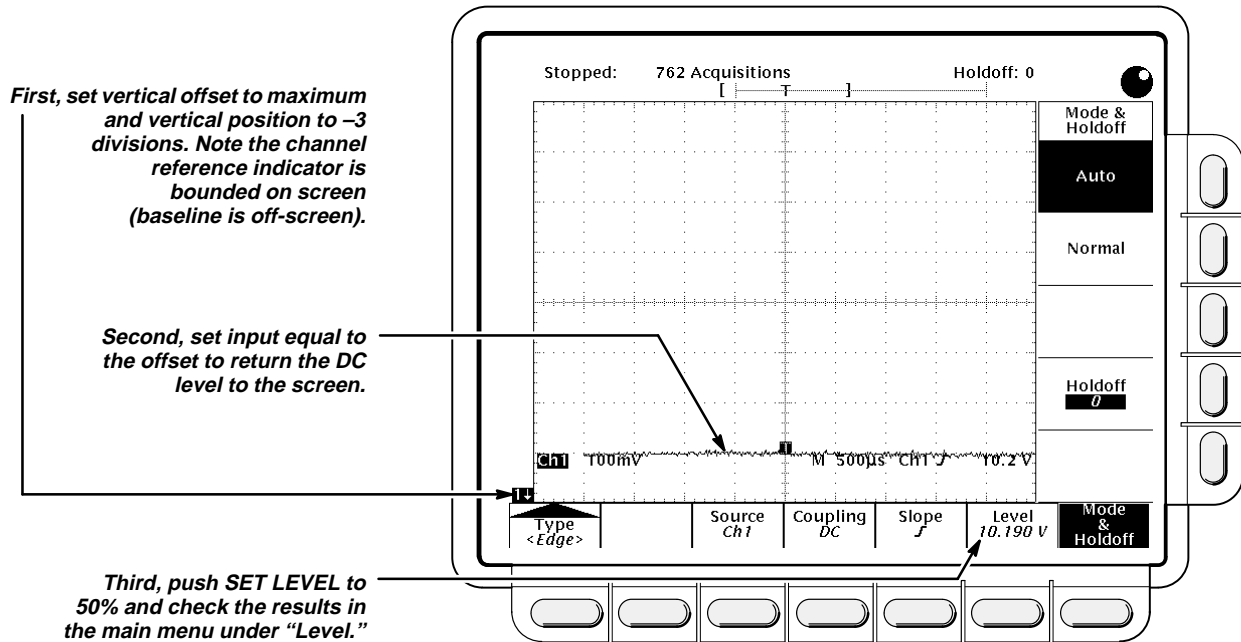

Figure 1-17: Measurement of Trigger-Level Accuracy
- CHECK that the **Level** readout in the main menu is within 9.863 V to 10.137 V, inclusive (see Figure 1-17).